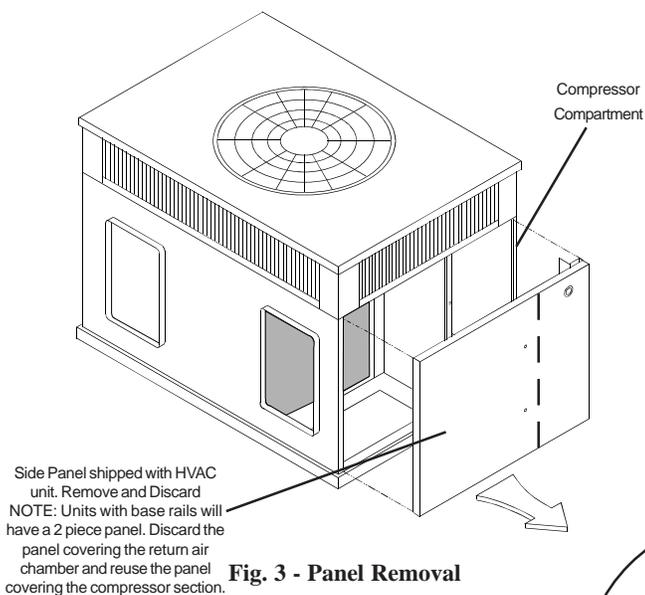

Fig. 3 - Panel Removal
2. Remove the side panel shipped on the HVAC unit. See Fig. 3.